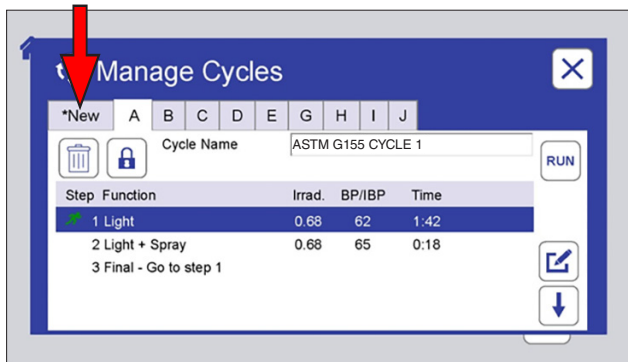
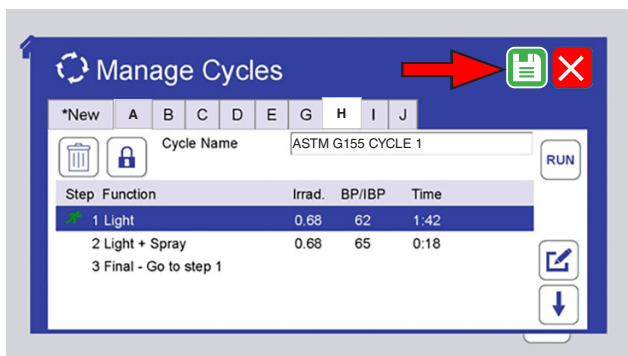

Figure 11.6.7a: To create a new cycle, touch the \*New tab.
Figure 11.6.7e: Follow Figure 11.6.4a through Figure 11.6.4j to add steps and save the new cycle.
- Create a new cycle (Figure 11.6.7a through Figure 11.6.7e).